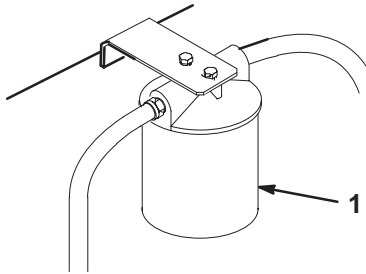

Figure 51
3. Place a drain pan under filter, remove the old filter and wipe the filter adapter gasket surface clean (Fig. 51).